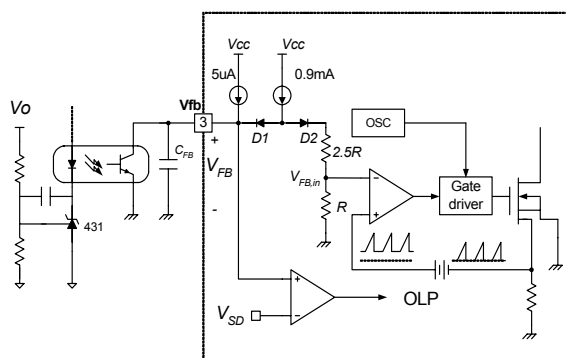

Figure 5. Pulse Width Modulation (PWM) Circuit
**2. Feedback Control** : The FSDx321 employs current mode control, as shown in Figure 5. An opto-coupler (such as the H11A817A) and shunt regulator (such as the KA431) are typically used to implement the feedback network. Comparing the feedback voltage with the voltage across the  $R_{sense}$  resistor plus an offset voltage makes it possible to control the switching duty cycle. When the KA431 reference pin voltage exceeds the internal reference voltage of 2.5V, the opto-coupler LED current increases, the feedback voltage  $V_{fb}$  is pulled down and it reduces the duty cycle. This event typically happens when the input voltage is increased or the output load is decreased.
**4.4 Over Voltage Protection (OVP) :** In the event of a malfunction in the secondary side feedback circuit, or an open feedback loop caused by a soldering defect, the current through the opto-coupler transistor becomes almost zero (refer to Figure 5). Then, VFB climbs up in a similar manner to the over load situation, forcing the preset maximum current to be supplied to the SMPS until the over load protection is activated. Because excess energy is provided to the output, the output voltage may exceed the rated voltage before the over load protection is activated, resulting in the breakdown of the devices in the secondary side. In order to prevent this situation, an over voltage protection (OVP) circuit is employed. In general, Vcc is proportional to the output voltage and the FPS uses Vcc instead of directly monitoring the output voltage. If VCC exceeds 19V, OVP circuit is activated resulting in termination of the switching operation. In order to avoid undesired activation of OVP during normal operation, Vcc should be properly designed to be below 19V.